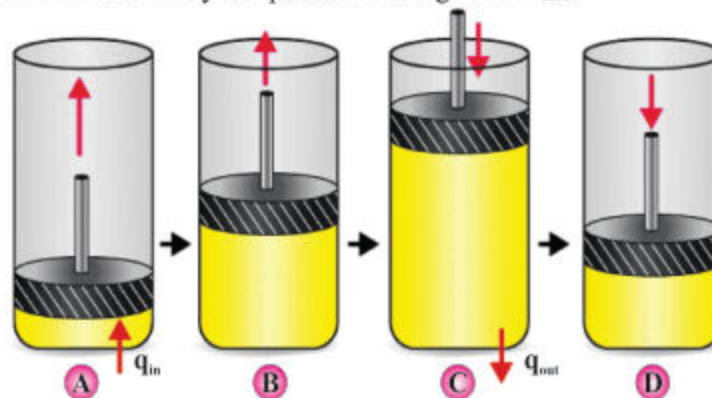

Fig: 17.7 (a,b,c,d) Carnot Engine cycle
1. In process A→B (fig.17.7 a) is isothermal expansion at temperature T_1 . The cylinder is placed in thermal contact with an energy reservoir at temperature T_1 . During the expansion, we decrease load on piston, the gas absorbs energy Q_1 from the reservoir through the base of the cylinder, volume of gas increases from V_1 to V_2 and does work W_{AB} in raising the piston.
2. In Process B→C (fig: 17.7 b), the base of the cylinder is replaced by a thermally non conducting wall and the gas expands adiabatically due to decrease in load on the piston; that is, no heat energy enters or leaves the system during the expansion, the temperature of the gas decreases from T_1 to T_2 , volume increases from V_2 to V_3 and gas does work W_{BC} in raising the piston.
3. In process C→D (fig.17.7 c), the cylinder is placed in thermal contact with an energy reservoir at temperature T_2 is compressed isothermally at temperature T_2 by increasing the load on the piston. The volume decreases from V_3 to V_4 . During this time, the gas expels energy Q_2 to the reservoir and the work done by the piston on the gas is W_{CD} .
4. In the final process D → A (fig. 17.7 d), the base of the cylinder is replaced by a non-conducting wall and the gas is compressed adiabatically by increasing the load on the piston. The temperature of the gas increases from T_2 to T_1 and volume decreases from V_4 to V_1 and work done by the piston on the gas is W_{DA} .